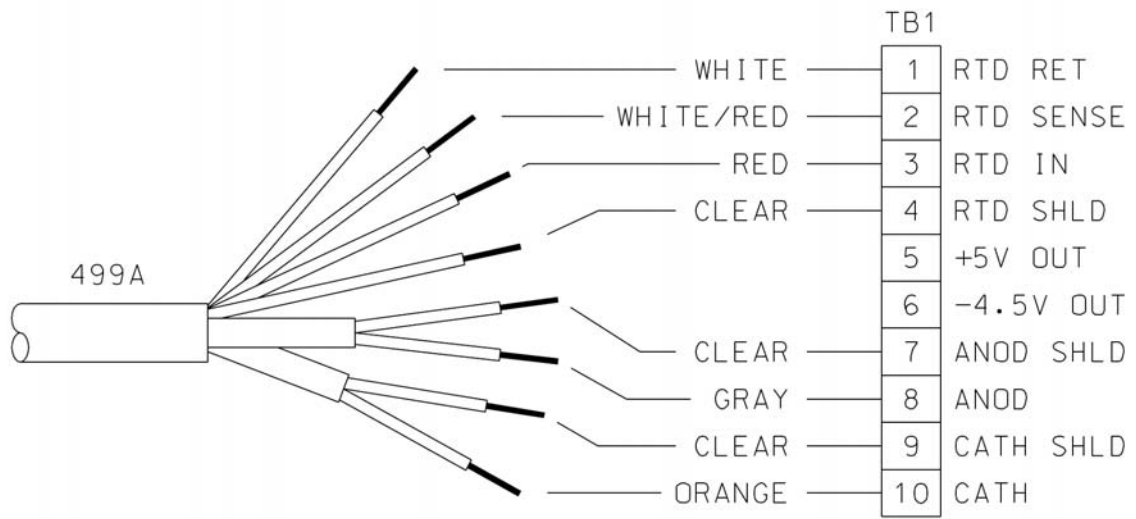

Figure 3-3. Wiring Sensor with Optimum EMI/RFI or Variopol Cable to Model 1056 Analyzer
6. Wire the sensor to the signal board. See Figure 3-3.